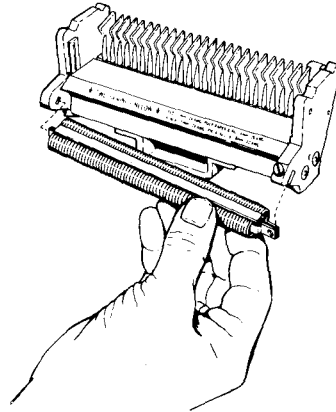

Fig. 69—Set retainer spring to proper wire gauge.
4. Check that wire retainer spring is set to proper gauge. To change, loosen wire retainer screw and turn spring assembly to proper size as indicated on the tape plate and on the spring assembly. See Figure 69.